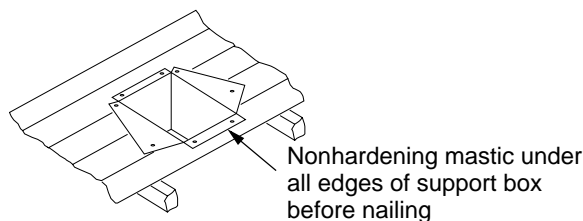

Figure 37 - Installed Cathedral Ceiling Support Box
- Using tin snips, cut the support box from the top corners down to the roofline and fold the resulting flaps over the roof sheathing (see Figure 37). Apply a bead of nonhardening mastic around the top edges of the support box to make a seal between the box and the roof. Nail in place with roofing nails. Remove any combustible material that might be inside of the support box.